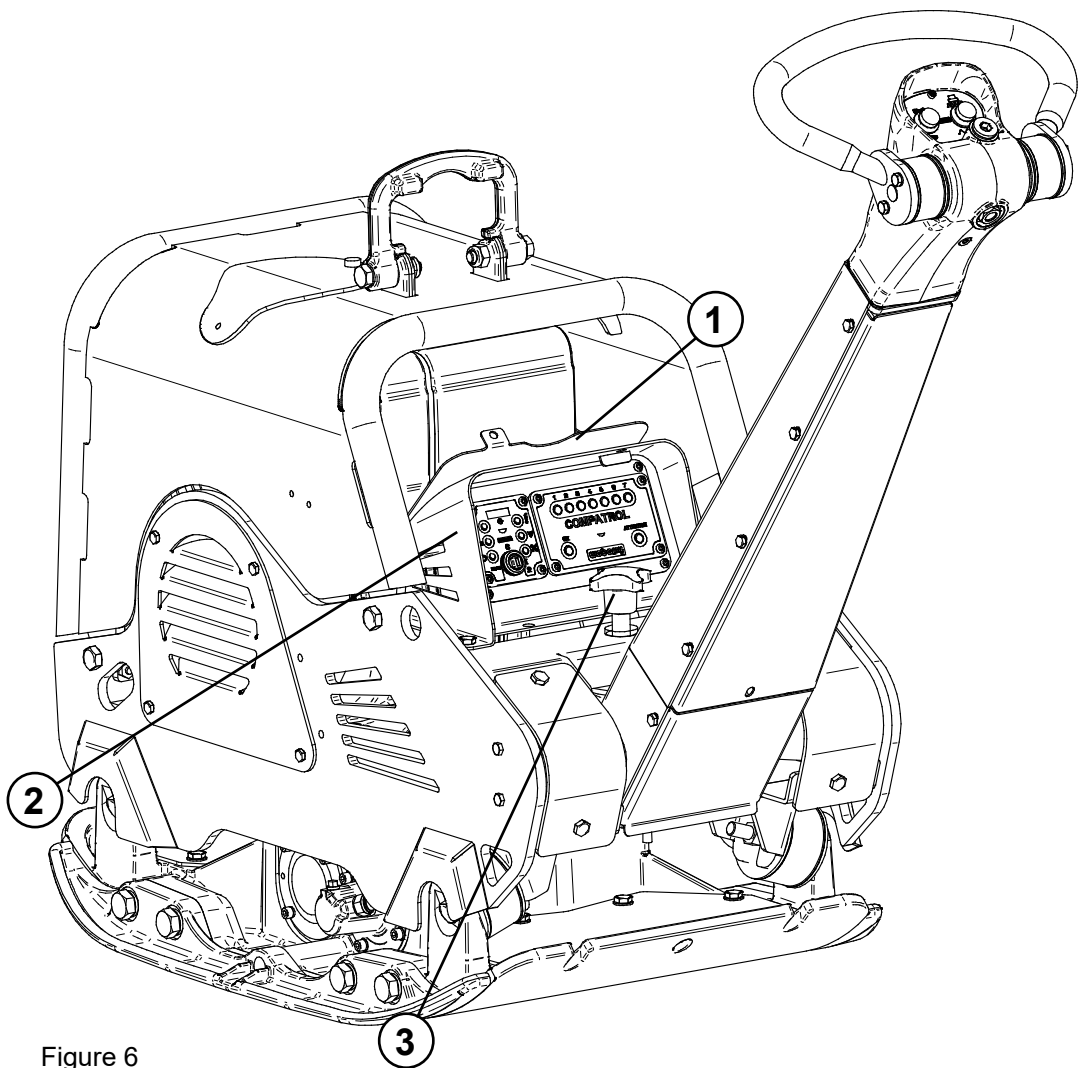

Figure 6
- ▶ Adjust the desired work height of the guide bar with the set screw (position 3, figure 6).
- ▶ Open the vandalism flap (position 1, figure 6).
- ▶ Insert the vandalism flap (1) into the designated holder on the valve box (position 2, figure 6).